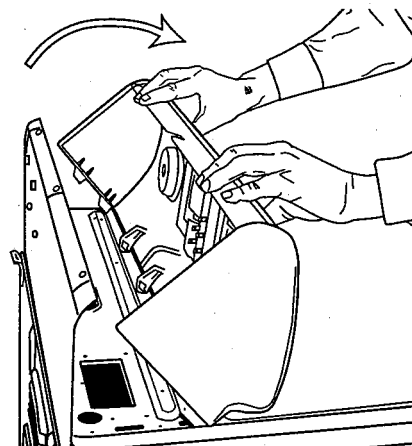

Figure 4-4
6. Carefully lift and roll the console forward onto the top cover. You now have access to the console components and wiring. (See Figure 4-4)